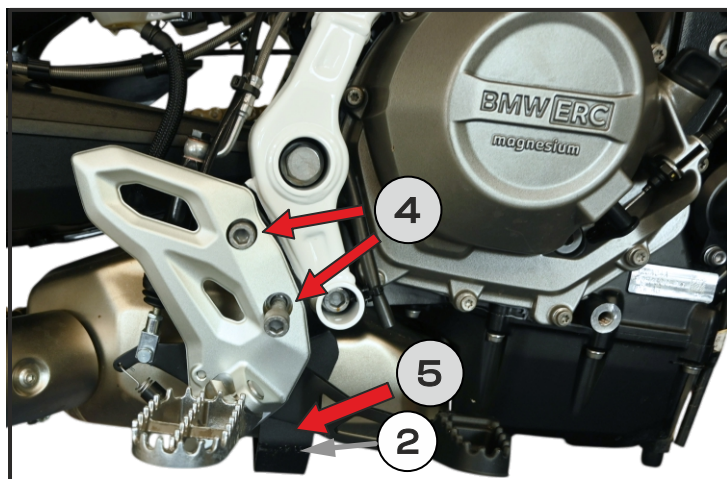
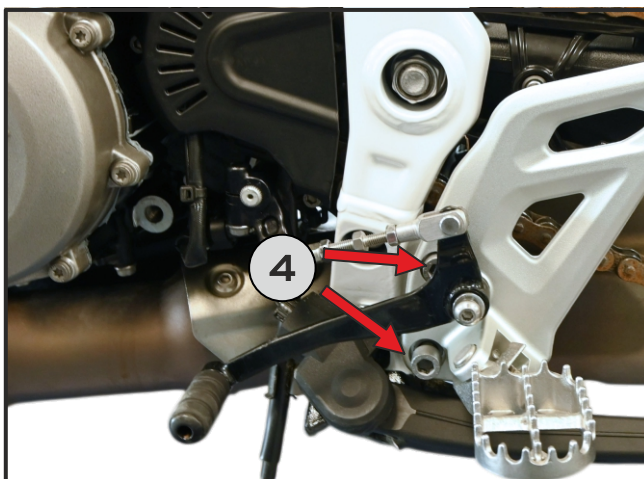
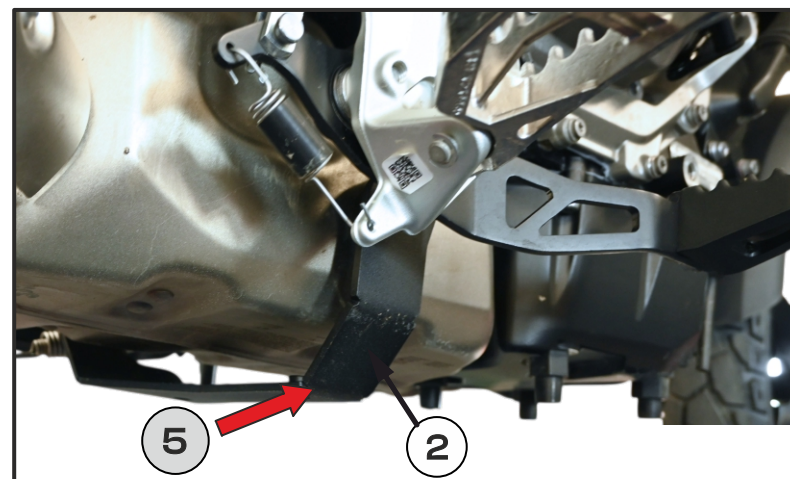

Fig. 7
Fig. 8
Fig. 9
Repeat this procedure on the opposite side of the motorcycle. **[Fig. 7], [Fig. 8]**
5. Install the Rear Bracket [2] and refasten it using the original bolts on both sides of the motorcycle **[Fig. 7], [Fig. 9]** Use a medium-strength threadlocker.